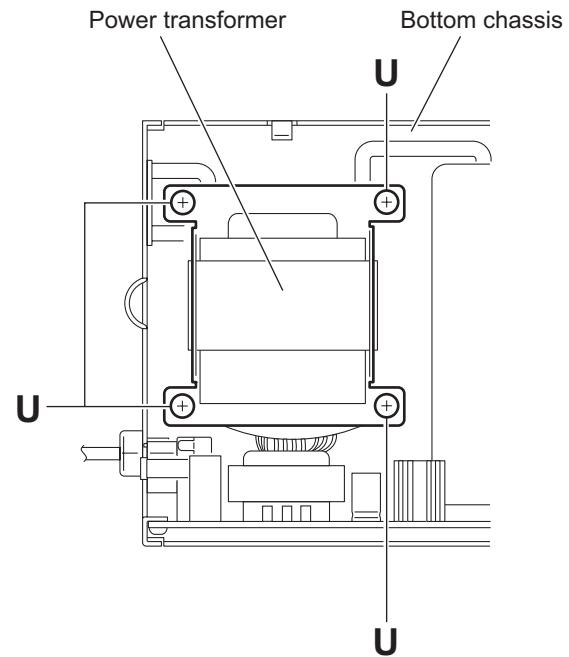

Fig.25
- From the top side of the main body, remove the four screws **U** attaching the power transformer. (See Fig.25.)